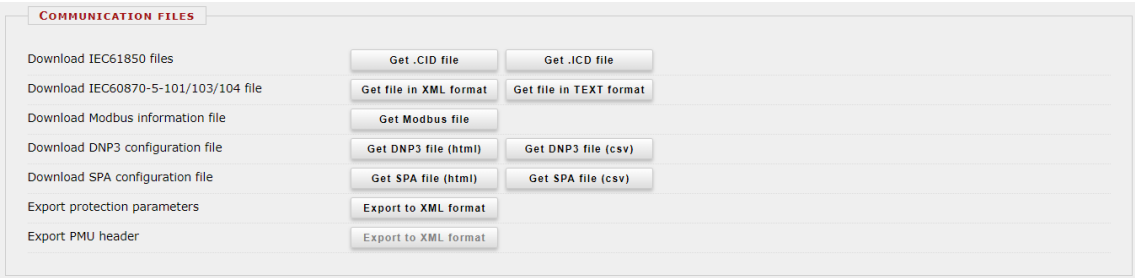

Figure 4-27 Communication files
**Communication files** (Figure 4-27) for various protocols can be downloaded by clicking the appropriate button.